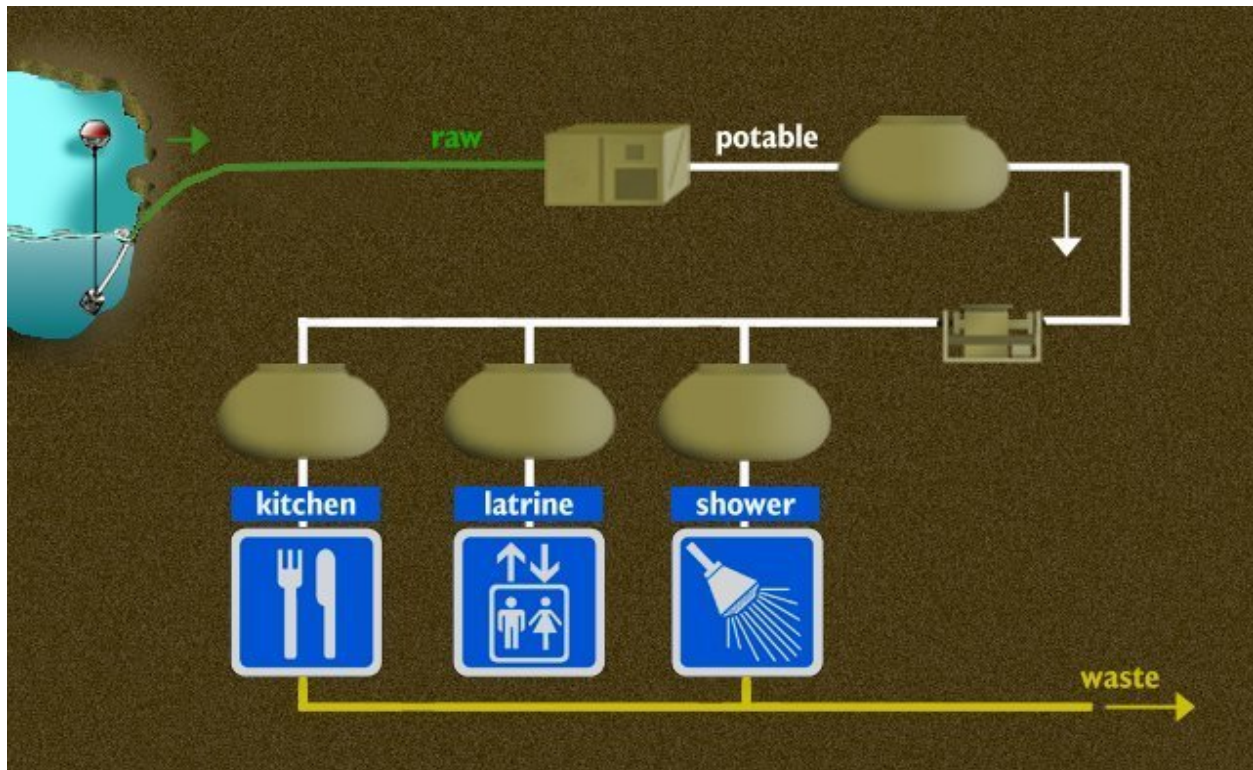

Figure1. Harvest Eagle Water Distribution System
1. Background: The importance of providing a potable source of water to deployed troops is self-evident. It is vital that this water is provided quickly and in large enough quantities to support the deployed forces and provide a dependable reserve supply. A single Harvest Eagle (HE) water system provides a 550-person encampment with a supply of water (average of 20 gallons per person per day) for drinking, cooking, bathing, and laundry. The basic system is composed of water treatment, storage, and distribution and wastewater (gray water) collection for field latrines, showers, laundries, and kitchens. (See Figure 1.)